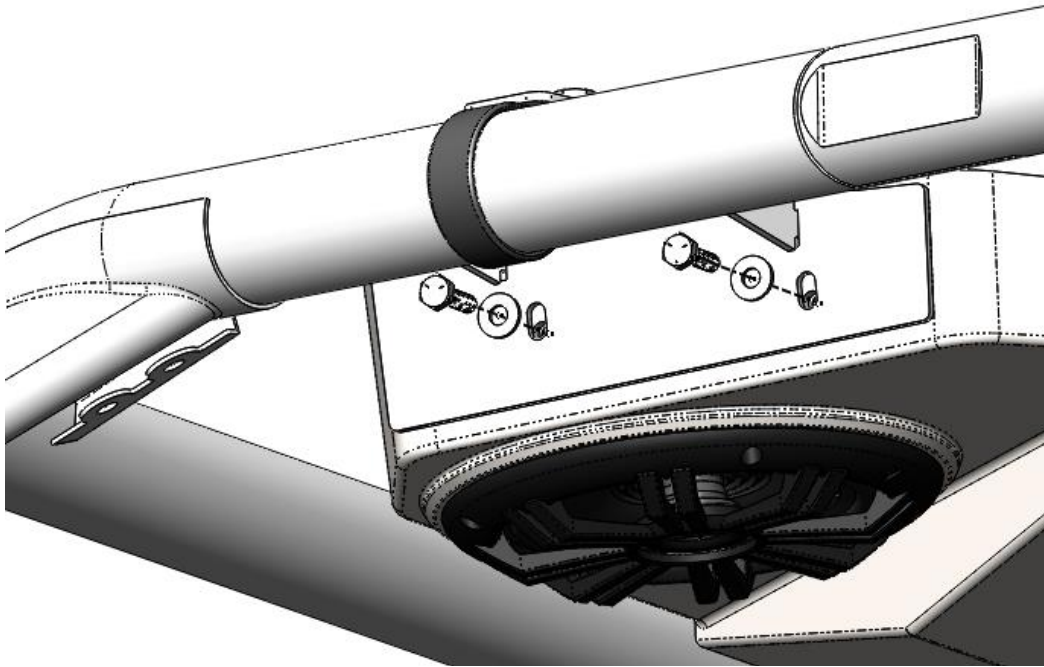
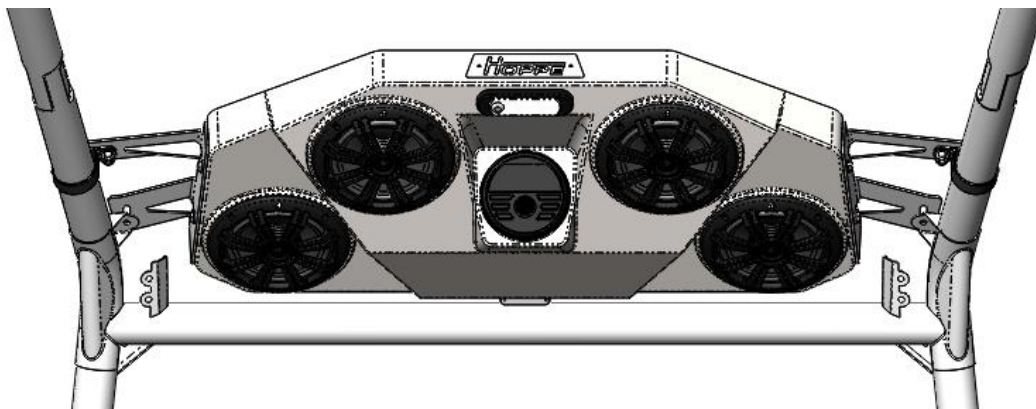

Figure 13: Install the 1/4"-20 bolts and washers to mount the Audio Mini to the brackets.
Figure 14: Loosely install the sound system on the mounting brackets.
- Hang the *Audio Mini* off-road sound system on the brackets using the supplied $\frac{1}{4}$ "-20 x 1" bolts and washers (loosely tightened). See Figure 13 and Figure 14.